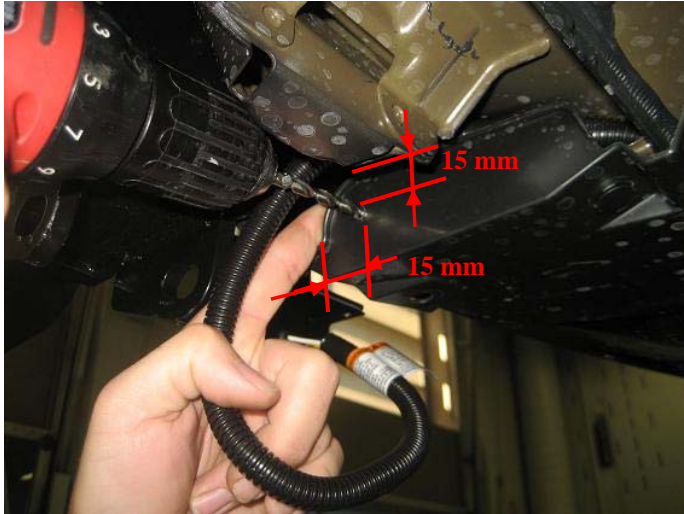

Figure 4-7
d) Drill the bumper undertray with a 7.5 mm drill bit as shown in Figure 4-7.